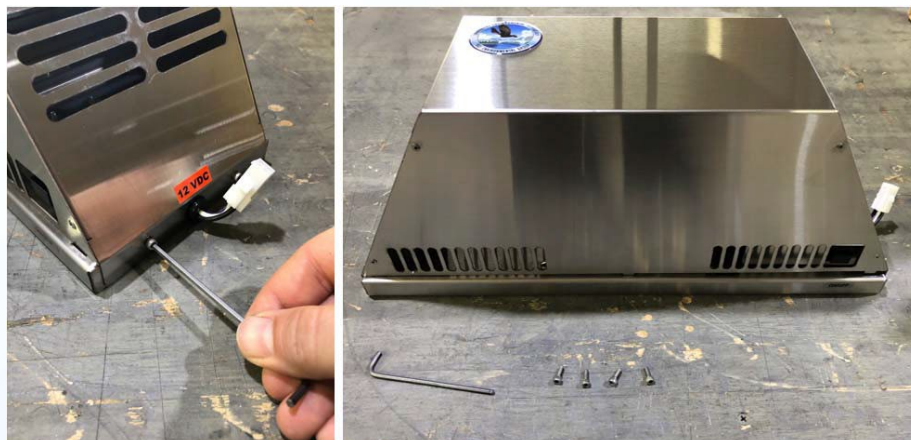

Figure 5 – COVER SOCKET CAP SCREW REMOVAL
1. Remove the stainless-steel cover from the unit by removing the four (4) socket cap screws using 7/64 Allen wrench. See Figure 5 below.